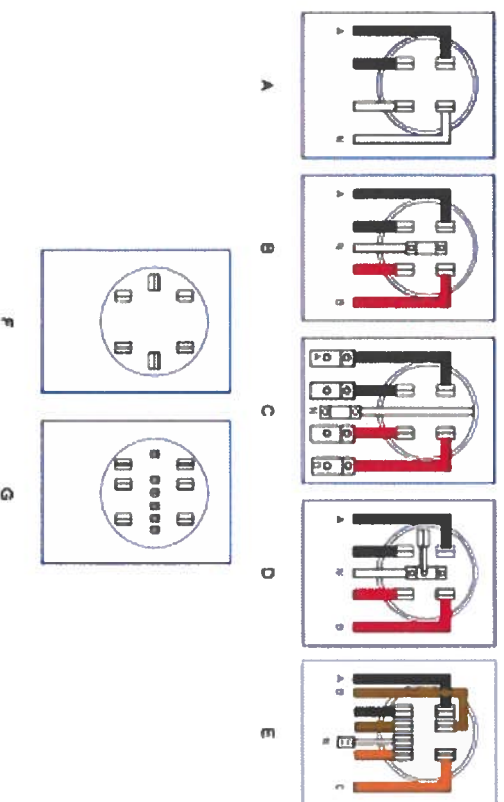

Figure D-4: Illustrations A – E are self-contained meter bases. F & G are for instrument-rated meter bases.
A self-contained meter base shall be installed on all new and remodeled single-phase services (120/240V or 120/208V), where the current carrying capacity of the service conductors does not exceed 200 amps, as specified (see Figure D-4).
A self-contained 400-ampere meter base with a link-style bypass is required on all new and remodeled single-phase services over 200 amps (120/240 V), where the current carrying capacity of the service entrance conductors does not exceed 400 amps (see Figure D-4). Meter bases will be 324N or equivalent. Lever-style bypasses are not allowed.
A five-terminal meter base is required on all single-phase 120/208-volt services. The fifth terminal shall be in the nine o'clock position and shall be connected to the socket neutral conductor. This meter is referred to as a network meter (see Figure D-4-D).
A seven-terminal meter base is required on all 120/240 Delta or 120/208 Wye self-contained services. The neutral (grounded conductor) shall be connected or tapped into the third terminal from the left on the lower terminal row (see Figure D-4-E). The “wild leg” is on the right-hand terminals and marked with orange tape.
Figure D-4 shows the necessary non-residential meter base types for specific voltage and amperage ratings.
- The “wild leg” conductor on a Delta service shall be located on the top right side of the meter socket and marked with orange tape (see Figure D-4-E)